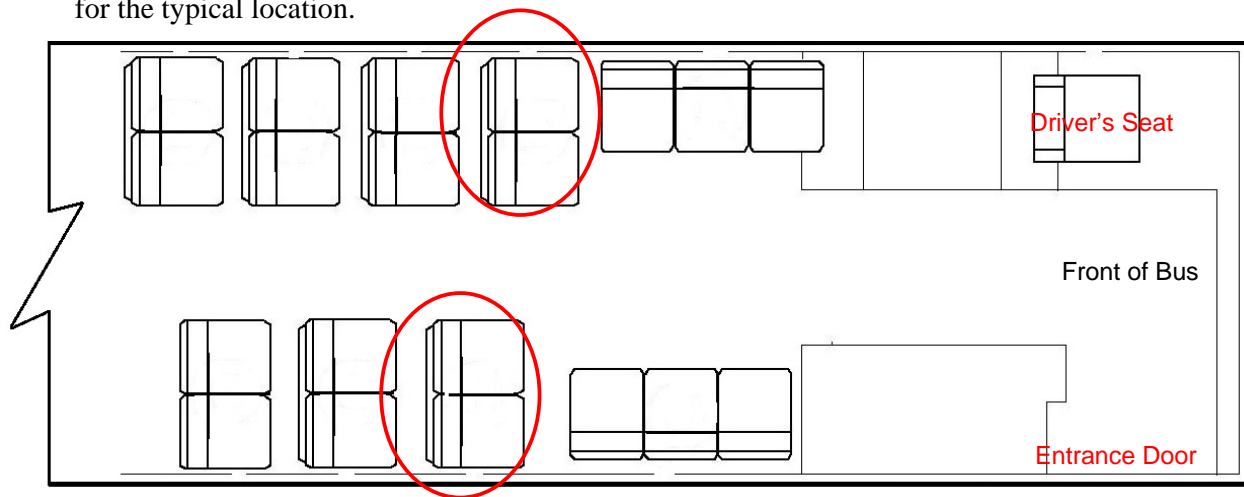

Figure 1: Typical Forward Facing Flip Up Seat Location
1. Locate the forward facing flip up seats that do not have a “barrier” in front of them. See Figure 1 for the typical location.